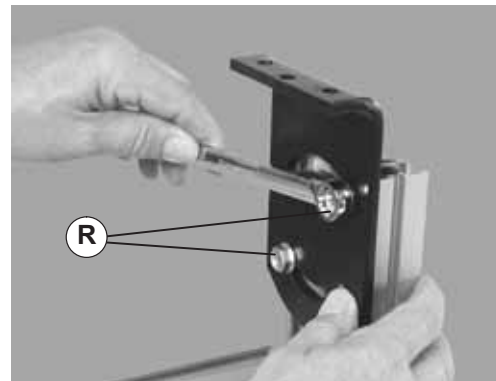

Figure 8
Failure to secure screws (Figure 8, item R) may cause conveyor sections to drop down causing severe injury.
10. Adjust bracket angle and height. Tighten bracket flange head hex screws (Figure 8, item R). Tighten screws to 150 in-lb (17 N-m).